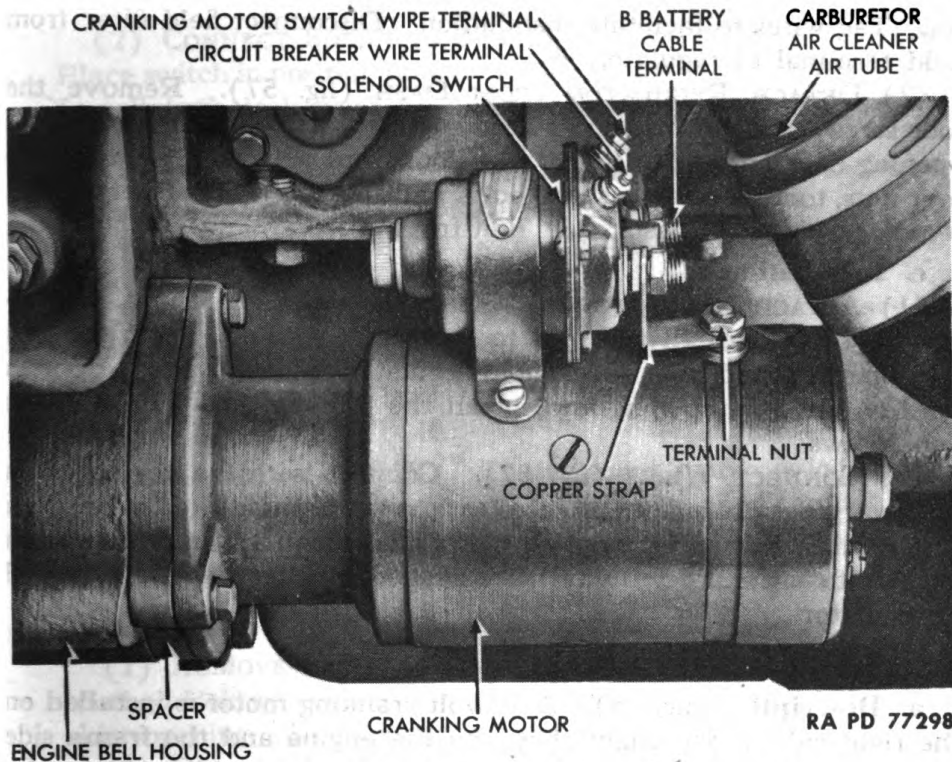

Figure 58 — Cranking Motor and Solenoid
a. Description (fig. 58). A 12-volt cranking motor is installed on the right side of the engine between the engine and the frame side rail. It can be reached through the right-hand cab skirt opening by first removing the carburetor air cleaner air tube. It can also be reached from under the truck. Engagement with the gear on engine flywheel while cranking is accomplished by means of a Bendix drive.
(3) **DISCONNECT SOLENOID SWITCH FROM CRANKING MOTOR** (fig. 58). Remove cranking motor terminal nut and lock washer. Remove the two screws and lock washers which attach switch to motor. Lift switch from motor.
(4) **DETACH CRANKING MOTOR FROM ENGINE** (fig. 58). Remove the three cap screws and lock washers which attach cranking motor to engine bell housing. Two are accessible through cab skirt opening and one from under truck. Lift cranking motor and spacer from engine from under truck.
(1) **ATTACH CRANKING MOTOR TO ENGINE** (fig. 58). From under truck, place spacer and cranking motor in position on engine bell housing. Install the three lock washers and cap screws which secure motor to engine. One can be installed from under truck and two through cab skirt opening.
(2) **CONNECT SOLENOID SWITCH TO CRANKING MOTOR** (fig. 58). Place switch in position on motor with copper strap on motor terminal. Install both lock washers and screws which hold switch to motor. Install cranking motor terminal, lock washer, and nut.
(4) **CONNECT CARBURETOR AIR CLEANER AIR TUBE** (fig. 58) (par. 68 d).
a. **Description** (fig. 58). The solenoid switch is located directly on top of the cranking motor, and may be reached through the right-hand cab skirt opening. This switch provides for a direct battery-to-cranking-motor circuit when starting.
(2) **REMOVE CARBURETOR AIR CLEANER AIR TUBE** (fig. 58) (par. 68 c).
(3) **DISCONNECT WIRING FROM SWITCH** (fig. 58). From switch top right-hand terminal, disconnect black lead from harness. From switch top left-hand terminal, disconnect red lead from harness and short red lead which goes to switch front left terminal. From switch left front terminal, disconnect battery cable and short red lead which goes to switch left-hand terminal. From switch front right terminal, disconnect flat copper strap which goes to cranking motor terminal.
(4) **DETACH SWITCH FROM CRANKING MOTOR** (fig. 58). Remove the two screws and lock washers which secure switch to cranking motor. Lift switch from motor.
(1) **ATTACH SWITCH TO CRANKING MOTOR** (fig. 58). Place switch in position on motor and install the two lock washers and screws.
(2) **CONNECT WIRING TO SWITCH** (fig. 58). On switch front right-hand terminal, install flat copper strap from cranking motor terminal, lock washer, and nut. On switch front left-hand terminal install short red lead which goes to switch left-hand terminal, battery cable, lock washer, and nut. On switch left-hand top terminal (adjacent to engine), install short red lead from switch front terminal, red lead from harness, lock washer, and nut. On switch right-hand top terminal (adjacent to frame side rail), install black lead from harness, lock washer, and nut.
(4) **INSTALL CARBURETOR AIR CLEANER AIR TUBE** (fig. 58) (par. 68 d).